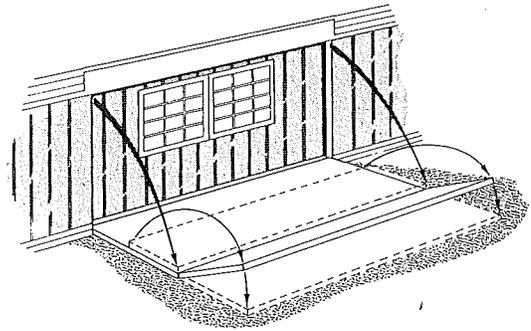

Figure 16
5. Using a minimum of two men, gradually lower the floor until it makes contact with the supporting piers previously positioned. **TAKE EXTREME CARE THAT THE WORKMEN CAN QUICKLY CLEAR THE SPACE UNDER THE FLOOR SHOULD IT SUDDENLY DROP.** See Figure 16.